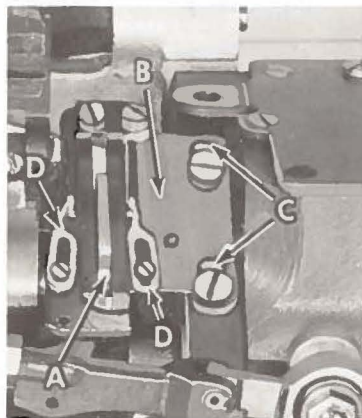

Fig. 14
The looper thread take-up (A, Fig. 14) is not spotted on the mainshaft and consequently, can be set to compensate for varying conditions. It is set correctly when the looper thread is just cast off the highest lobe of the take-up when the point of the left needle is clearly visible below the underside of the looper. The cast-off plate support (B) is adjustable and its setting determines the amount of thread pulled off by the take-up. Moving support (B) up towards the bottom of its mounting screw slots (C) causes more thread to be pulled from the cones, moving same; down towards the top of its screw slots causes less thread to be pulled. The looper threads should just become taut as the loopers reach their extreme position to the left. Check out right to left positioning before securing support (B) as described in paragraph "SETTING THE TAKE-UP", for final setting.
The 401 stitch looper thread eyelets (D, Fig. 14) are adjustable and can be positioned to reduce or put more looper thread into the 401 stitch system without changing the 602 thread setting.